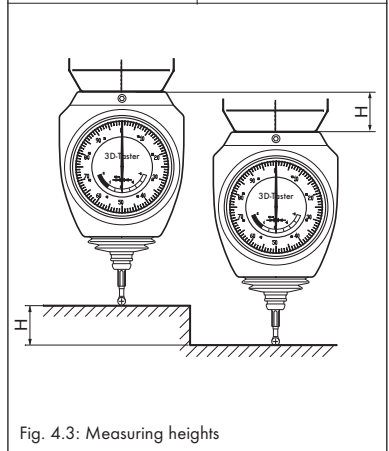

Fig. 4.3: Measuring heights
- The display of the machine (z-axis) shows the height difference (fig. 4.3).